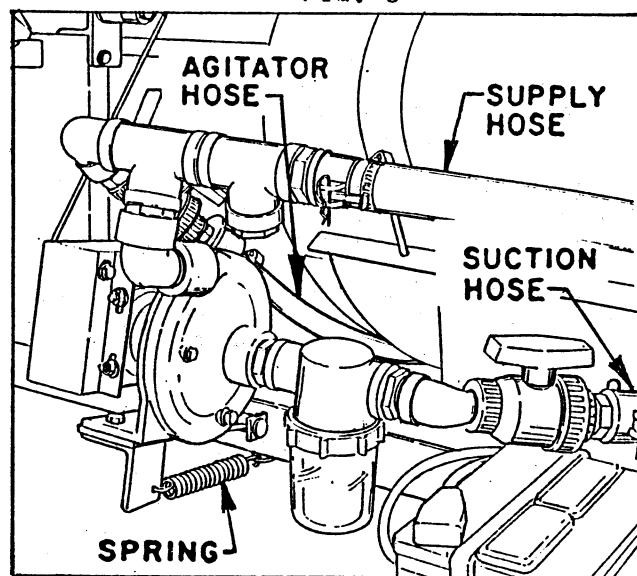

FIG. 4
■ Apply thread sealer and install all of the Fittings, Ball Valves and Qwik-Couplers as shown in FIG.4 to connect the Suction, Supply and Agitator Hoses.